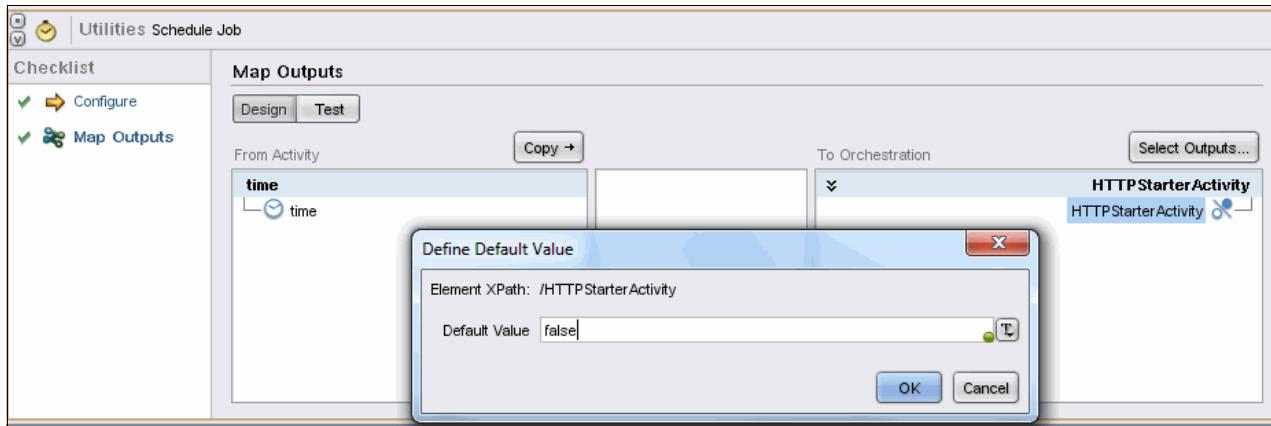

Figure 11-28 Setting a variable value in Map Outputs for Schedule Job activity
- c. Right-click the **HTTPStarterActivity** in the To Orchestration area, and select **Define Default Value**. Set a default value of False for this variable, and click **OK**, as shown in Figure 11-28.